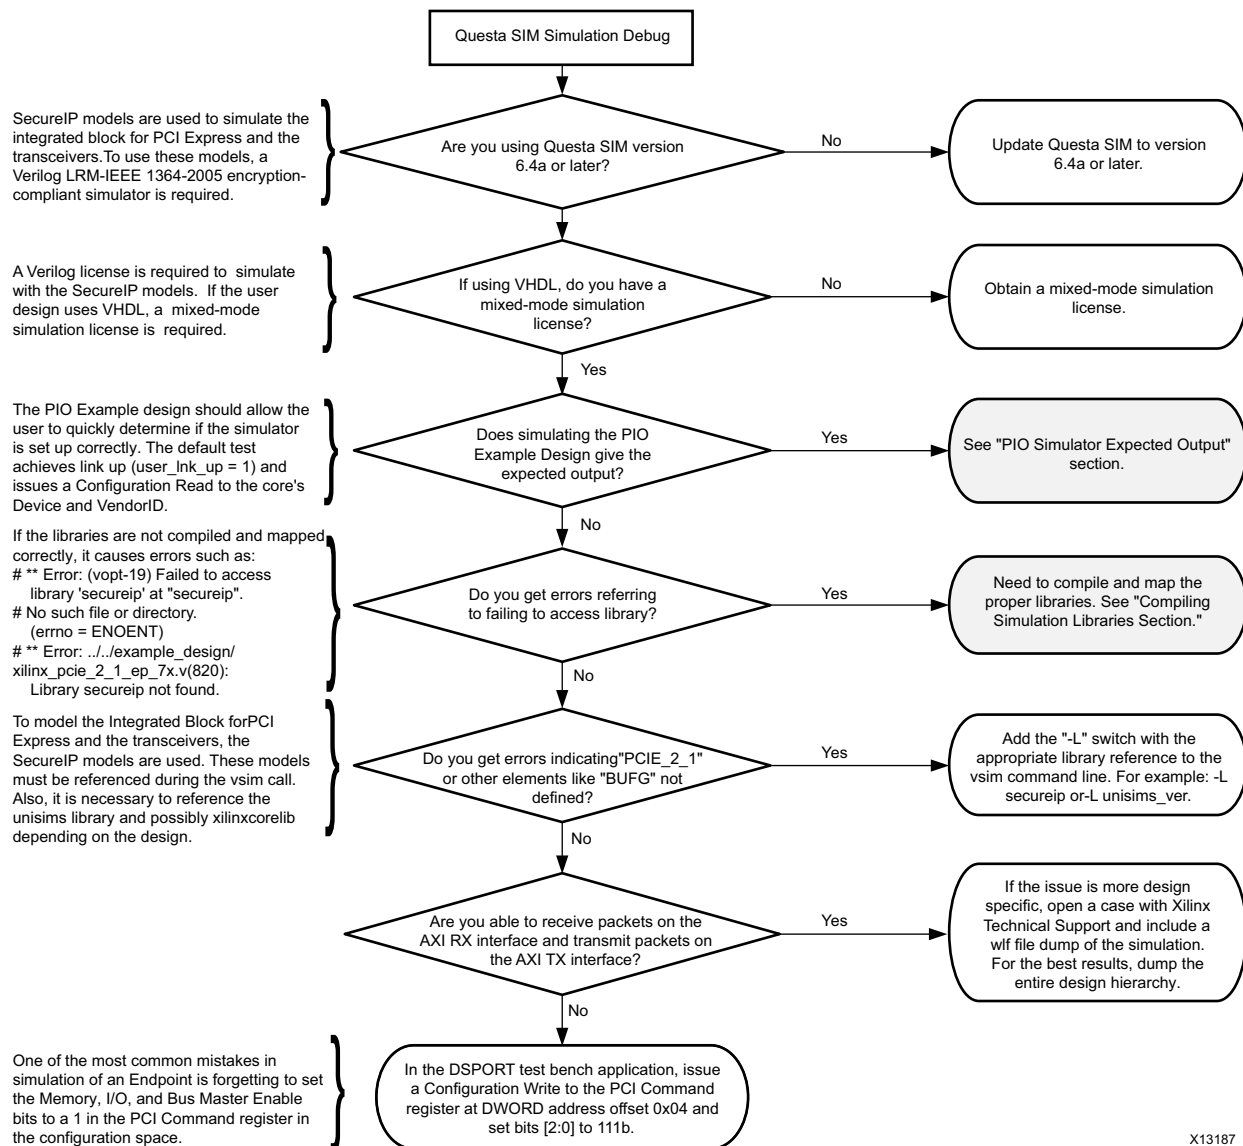

Figure B-2: Questa SIM Debug Flow Diagram
The simulation debug flow for Questa® SIM is illustrated in Figure B-2.
**Note:** Endpoints that are shaded gray in Figure B-2 indicate that further explanation is provided in this section.